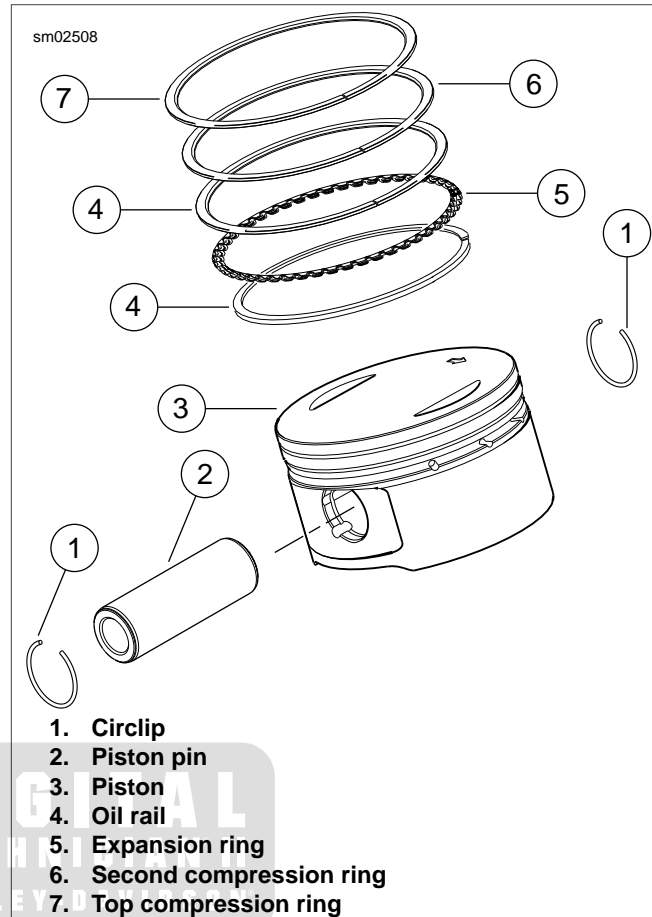

Figure 3-100. Piston Assembly
1. See Figure 3-100. Carefully remove top (7) and second (6) compression rings using the proper piston ring expander (Snap-on PRS8).
2. Using your fingers, remove top and bottom oil rails (4) from the third ring groove. Remove the oil rail expansion ring (5).